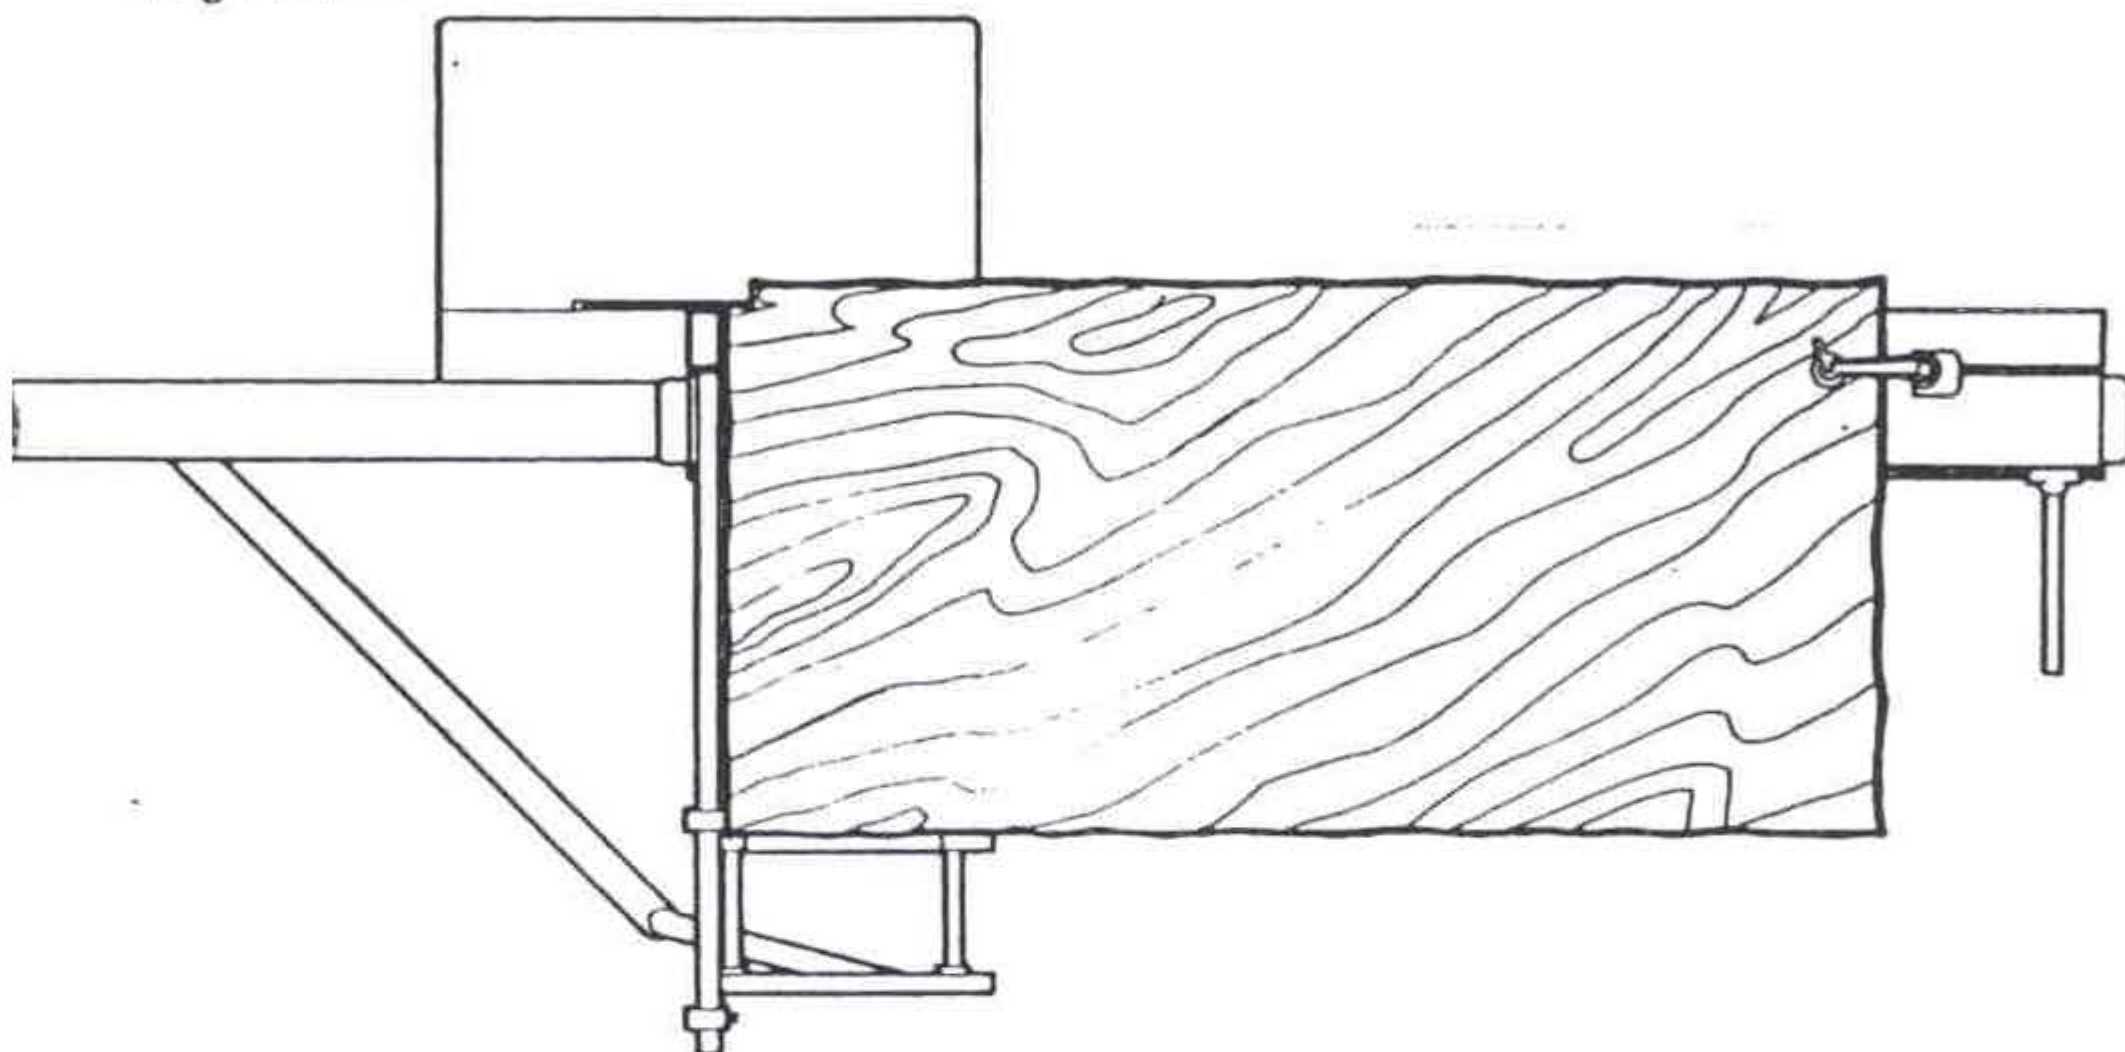

Fig. 19
- A first longitudinal cut in the workpiece is taken by leaning it against the fence and by pressing it by hands or with the aid of the clamp (fig. 19)